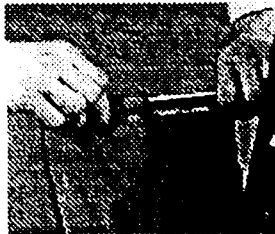

Fig. 7
Slide top of bag out of open end of clamp (Fig. 7). It is not necessary to remove clamp from handle. Remove bag from cleaner by pulling back lever arm (A) on bag collar (Fig. 8).
Place tab on bottom of bag collar into slot on cleaner base (Fig. 10). Push collar forward so locator pin (B) fits into slot and push lever arm (A) forward to lock bag in place (Fig. 8). Slide top of bag back in clamp (Fig. 7).